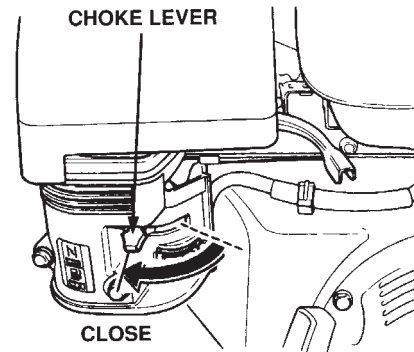

Figure 12. Engine Choke Lever (Closed)
4. Place the *choke lever* (Figure 12) in the **CLOSED** position if starting a **warm engine** or the **temperature is warm**.
6. If the engine has started, slowly return the choke lever (Figure 12) to the **CLOSED** position. If the engine has not started repeat steps 1 through 3.
4. Turn the **ignition switch** (Figure 12) to the **OFF** position to shut-down the engine.